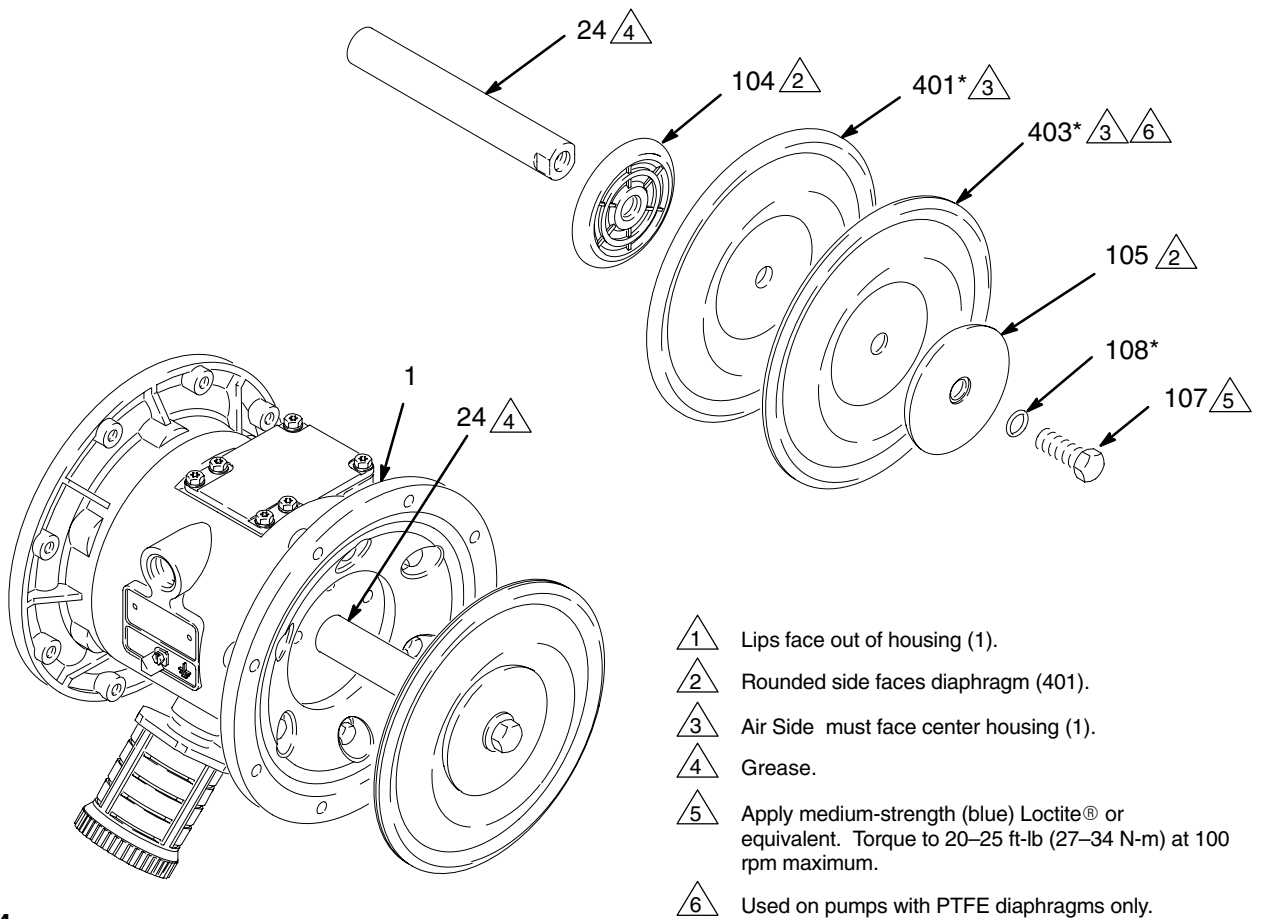
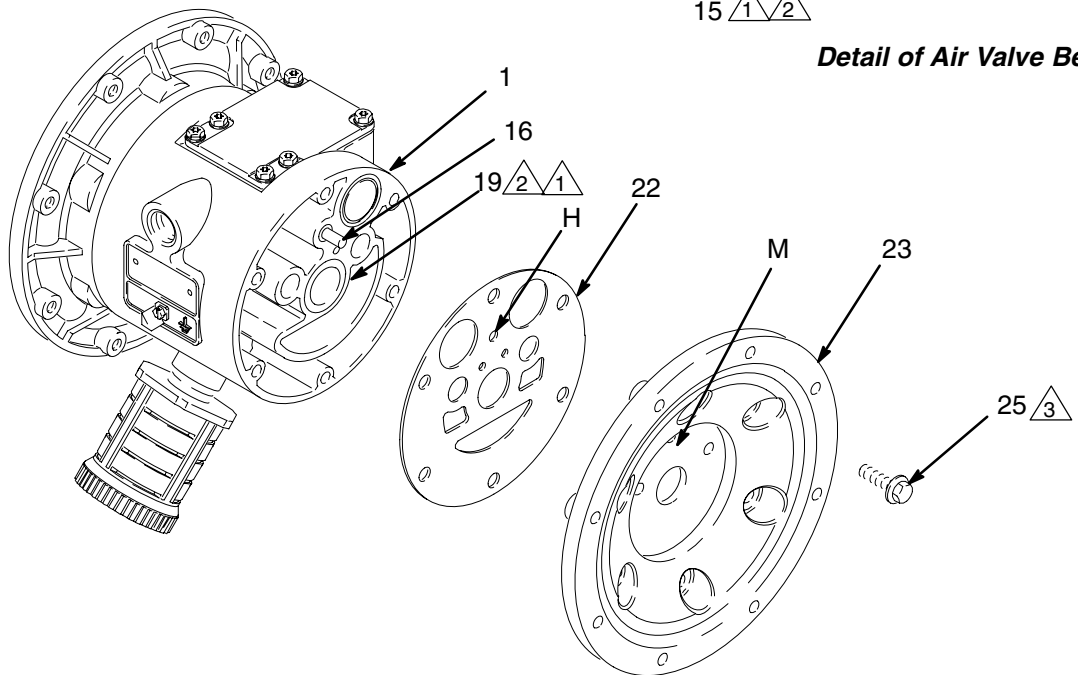

Fig. 14
Fig. 15
4. Loosen but do not remove the diaphragm shaft bolts (107), using a 15 mm socket wrench (1" on stainless steel models) on both bolts.
5. Unscrew one bolt from the diaphragm shaft (24) and remove the o-ring (108), fluid side diaphragm plate (105), PTFE diaphragm (403, *used on / ㉔●㉔ models only*), diaphragm (401), and air side diaphragm plate (104). See Fig. 14.
6. Pull the other diaphragm assembly and the diaphragm shaft (24) out of the center housing (1). Hold the shaft flats with a 19 mm socket wrench, and remove the bolt (107) from the shaft. Disassemble the remaining diaphragm assembly.
7. Inspect the diaphragm shaft (24) for wear or scratches. If it is damaged, inspect the bearings (19) in place. If the bearings are damaged, refer to page 22.
8. Reach into the center housing (1) with an o-ring pick and hook the u-cup packings (402), then pull them out of the housing. This can be done with the bearings (19) in place.
1. Install the shaft u-cup packings (402*) so the lips face **out** of the housing (1). Lubricate the packings. See Fig. 14.
2. Install the diaphragm assembly on one end of the shaft (24) as follows:
- a. Install the o-ring (108*) on the shaft bolt (107).
- b. Install the fluid side diaphragm plate (105) on the bolt so the rounded side faces the diaphragm (401).
- NOTE:** If you are removing only the diaphragm shaft bearing (19), skip step 4.
5. Using a 10 mm socket wrench, remove the screws (25) holding the air covers (23) to the center housing (1). See Fig. 15.
6. Remove the air cover gaskets (22). Always replace the gaskets with new ones.
7. Use a bearing puller to remove the diaphragm shaft bearings (19), air valve bearings (12) or pilot pin bearings (15). Do not remove undamaged bearings.
8. If you removed the diaphragm shaft bearings (19) reach into the center housing (1) with an o-ring pick and hook the u-cup packings (402), then pull them out of the housing. Inspect the packings. See Fig. 14.
1. If removed, install the shaft u-cup packings (402*) so the lips face **out** of the housing (1).
2. The bearings (12, 15, and 19) are tapered and can only be installed one way. Insert the bearings into the center housing (1), **tapered end first**. Using a press or a block and rubber mallet, press-fit the bearing so it is flush with the surface of the center housing.
4. Align the new air cover gasket (22) so the pilot pin (16) protruding from the center housing (1) fits through the proper hole (H) in the gasket.
5. Align the air cover (23) so the pilot pin (16) fits in the middle hole (M) of the three small holes near the center of the cover. Install the screws (25), handtight. Apply medium-strength (blue) Loctite® or equivalent to the threads of the screws (25). See Fig. 15. Using a 10 mm socket wrench, torque the screws oppositely and evenly to 130–150 in-lb (15–17 N.m).